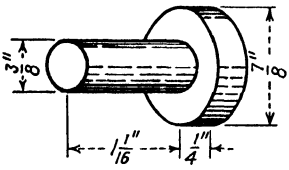

Fig. 306.
35. Calculate the weight of 144 steel pins as shown in Fig. 306.